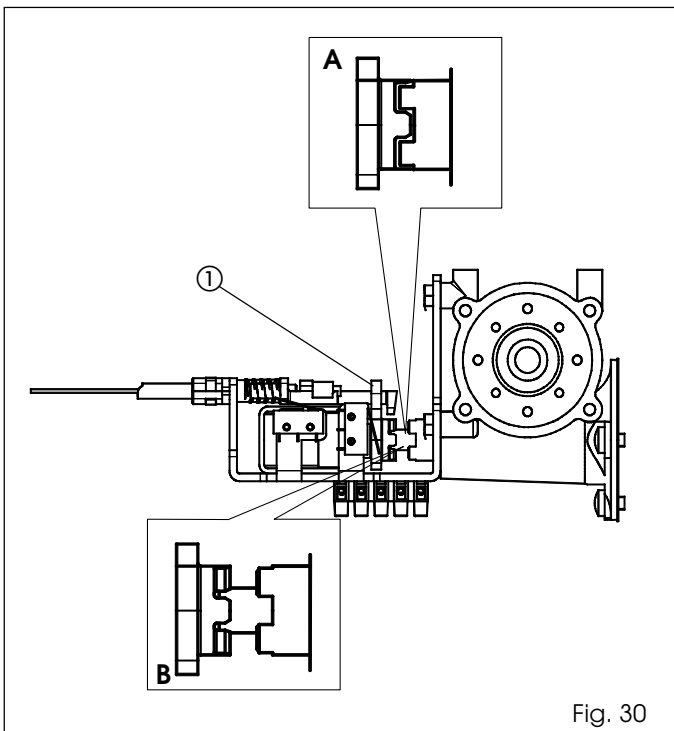
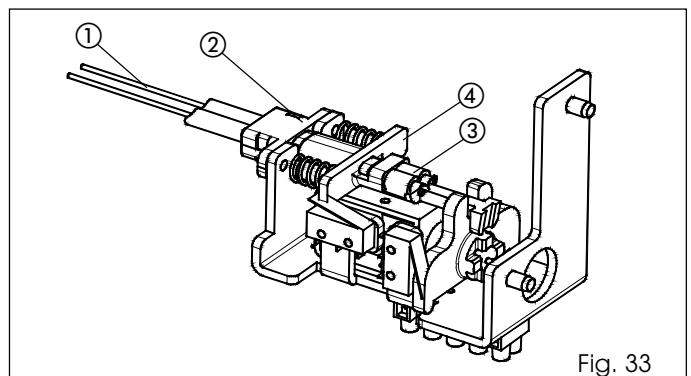

Fig. 30
Fig. 33
- Manually push the lever (fig. 30 ref. ①) toward the motor shaft, checking for correct meshing as per fig. 30 ref. A.
- Move the lever (fig. 30 ref. ①) vertically and check if there is play between the motor-shaft and motor-lock coupling.
- Thread the cable (fig. 33 ref. ①) inside part ②, leaving the sheath at its limit stop.
- Fit the cable on the terminal (fig. 33 ref. ③).
- Pull part ④ to its limit stop (compressing the springs) and tighten the screw of the terminal ③, thus securing the steel cable.
- Make sure that the motor lock coupling is clear of the motor shaft coupling (fig. 30 ref. B).